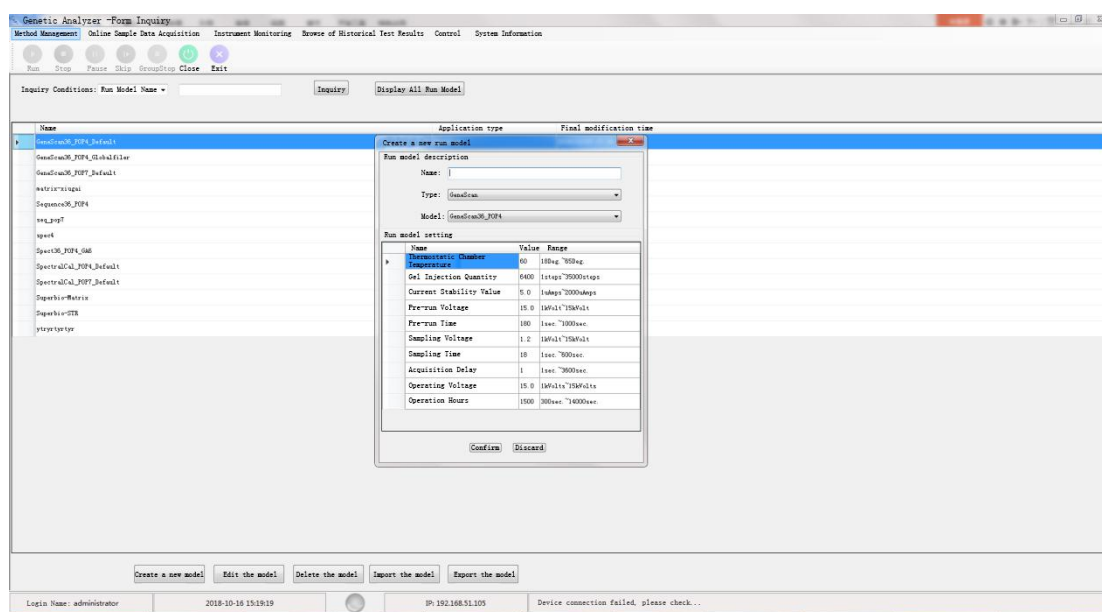

Figure 17. Create a New Operation Model
(1) Click "Method Management", "Operation Model" in the software menu in turn. Click "Create a New Model" at the lower left corner of the page and the dialog box of creating a new operation model pops up. As shown in Figure 17.